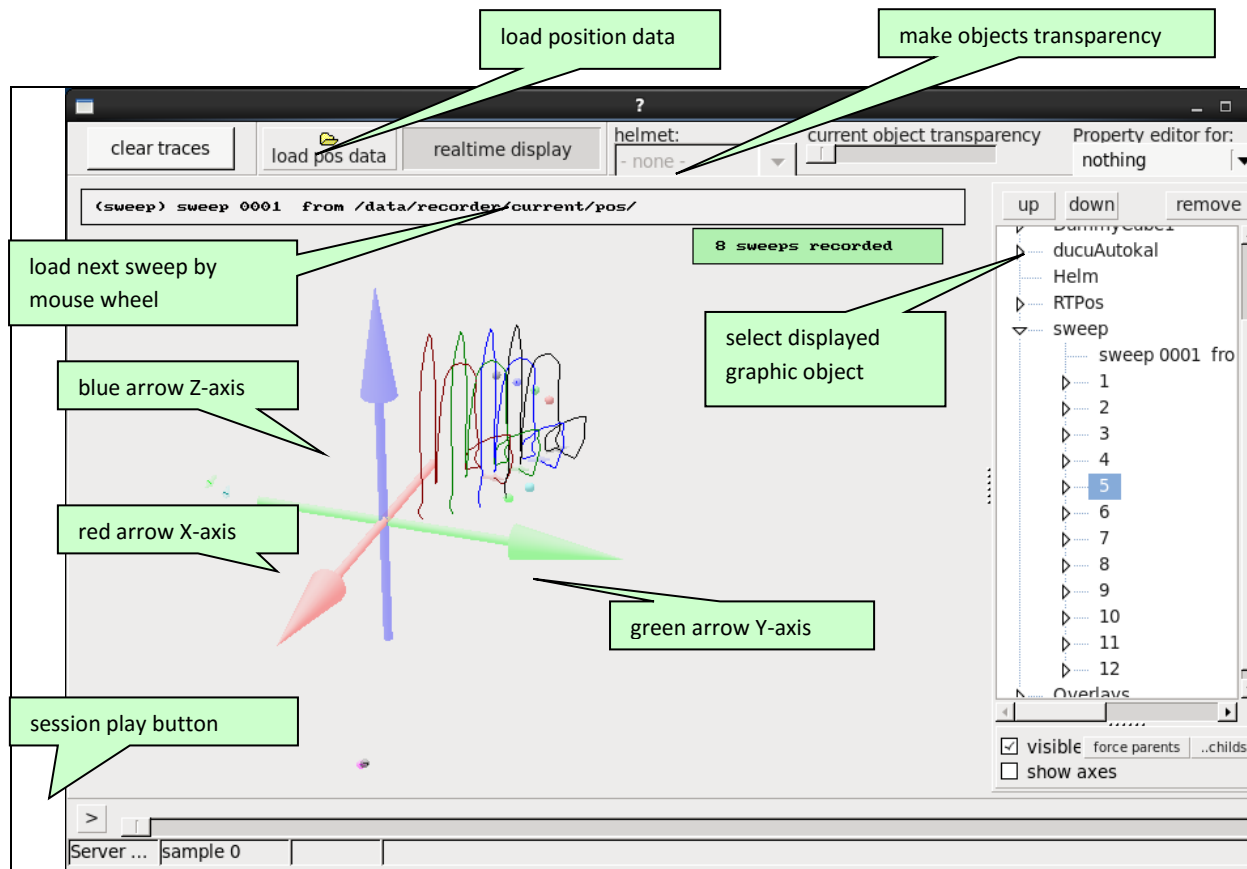

Figure 3: The Articulograph AG501 measuring environment as a 3D graphic screen
- click the button "load pos data" (Figure 3)
- to change the transparency of the measurement range, use the scroll bar “current object transparency” (Figure 3)